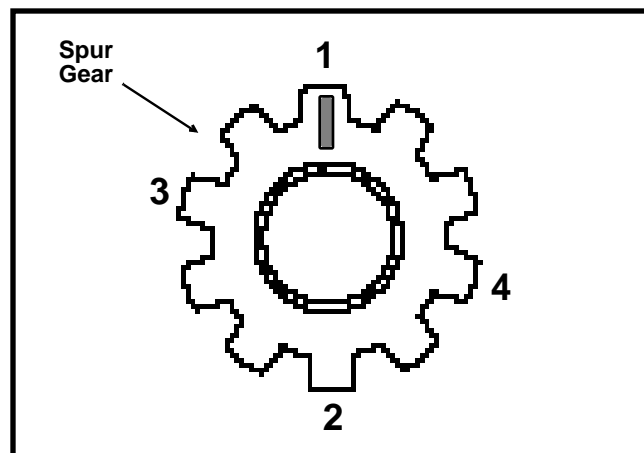

Figure 1. Check Jackshaft Runout - Method 1
1. Select any tooth on the jackshaft spur gear and mark the face as shown in Figure 1, position 1.
3. Check the runout in four positions (as shown in Figure 1) using a dial indicator on the tooth tips.